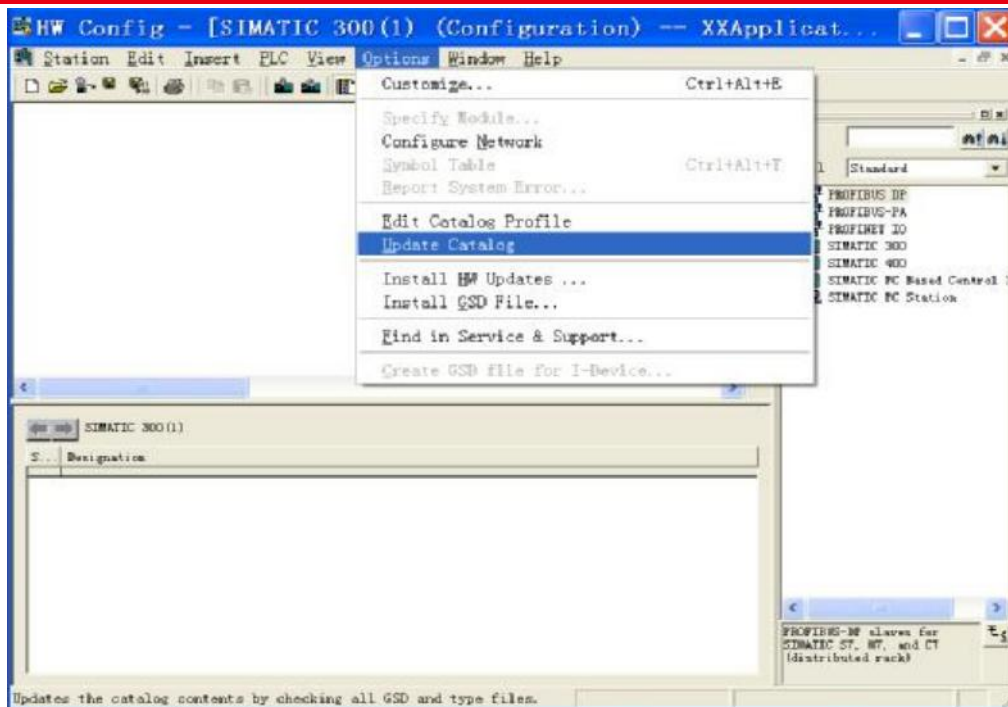

Figure 5
(6) Select Option → Update Catalog, as shown in Figure 5. Step 7 automatically adds the GSD file for the XXXApplication device to the device's Catalog, which can be found in the PROFIBUS-DP path according to the path configured in the GSD.